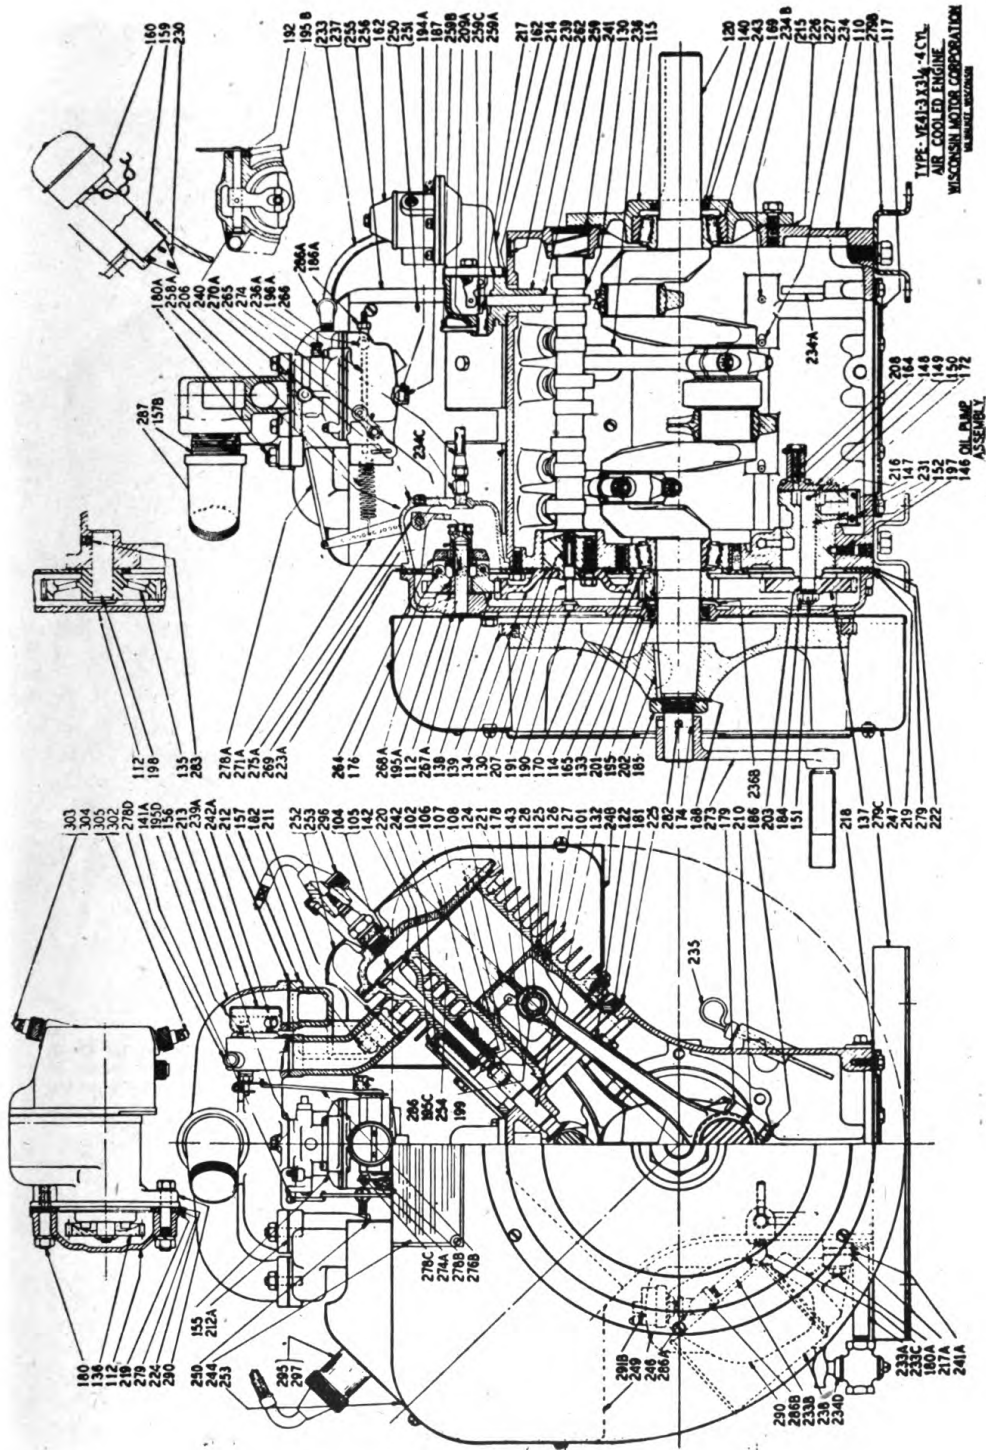

Figure 12.—Power Unit PE-99-B, engine cross section
47. TABLE OF REPLACEABLE PARTS.—a. Engine (figures 12, 13, 14 and 15).—